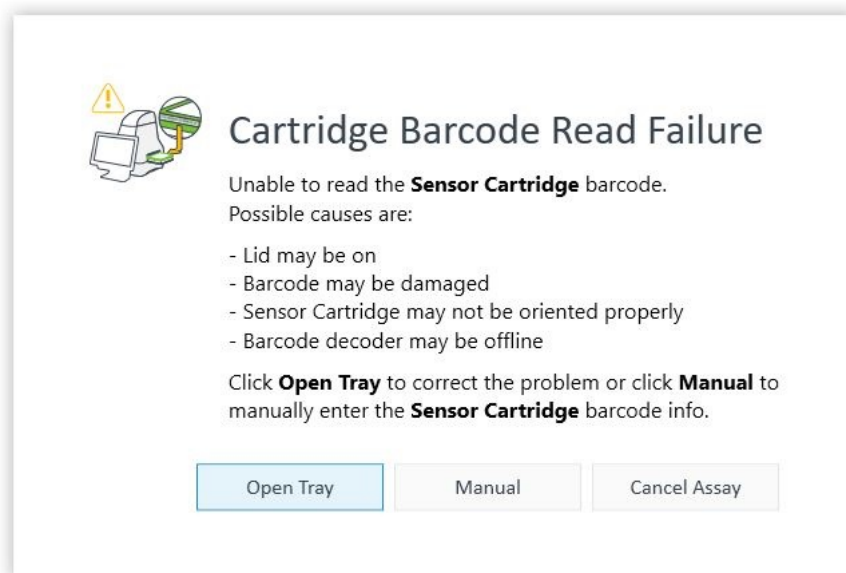

Figure 86. Barcode read failure
The XF Pro Analyzer reads and records the Cell Plate and Sensor Cartridge barcodes before beginning an assay. A Barcode Read error will be displayed on the rare occasion the barcode cannot be read. (See Figure 86.) Contact Agilent Cell Analysis Technical Support to assist with resolving this error and to start the assay.
For any Sensor Cartridge barcode read errors, XF Pro Controller software will display the message shown in Figure 86 and three corrective actions:
- 1 To display the Cartridge Barcode window, click Manual. (See Figure 86)